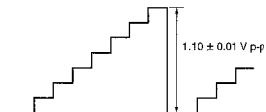

Fig. 3-3
4. Observe the TP503 (B IN) with an oscilloscope, and adjust the RGB A.GAIN level so that the signal level will be $1.10\text{ V} \pm 0.01\text{ V p-p}$. (Fig. 3-3)